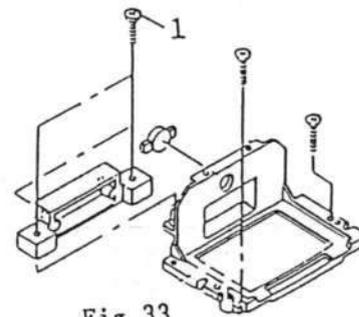

Fig.33
- (1) Put the AE FPC to the body.
- (2) Solder the portion of the DX CONTACT, BPC SW and the FV FPC.
- (3) Tighten two SCREWS (No.1,2).
- (4) Put the SPD FRAME (No.1, Fig.33) to the Prism frame.